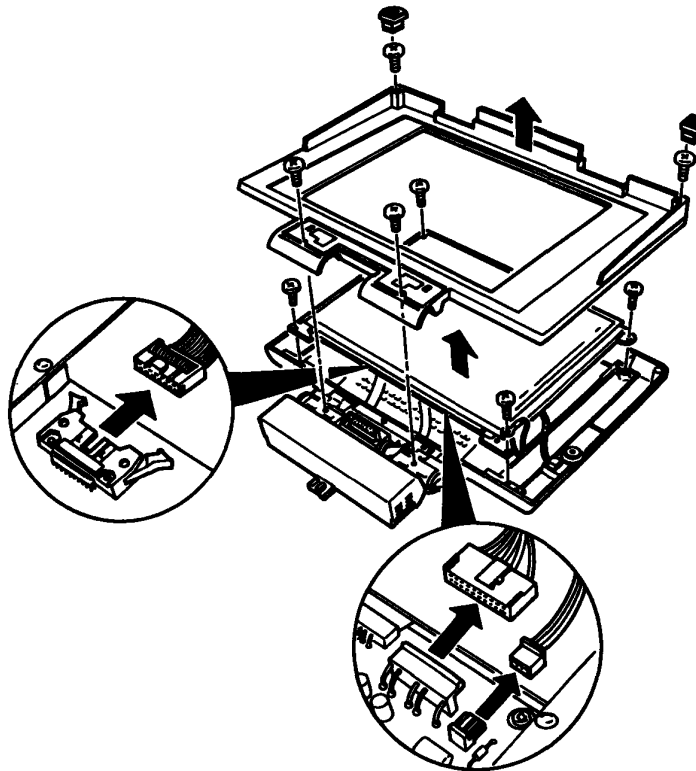

Figure 2-3 PDP connector check
2. Remove the PDP without disconnecting the cables (Refer to section 4.5.) and check that the cables are securely connected to the plasma display board (Refer to figure 2-3.)